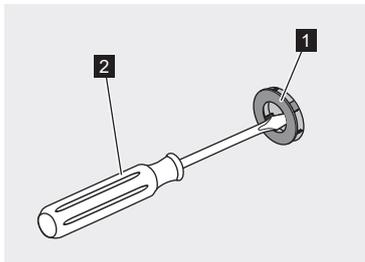

Fig. 17: Levering off cover clip
3. Lever off cover clip (Fig. 17/1) with a small slotted screwdriver (Fig. 17/2). The cover clip cannot be reused and must be replaced.